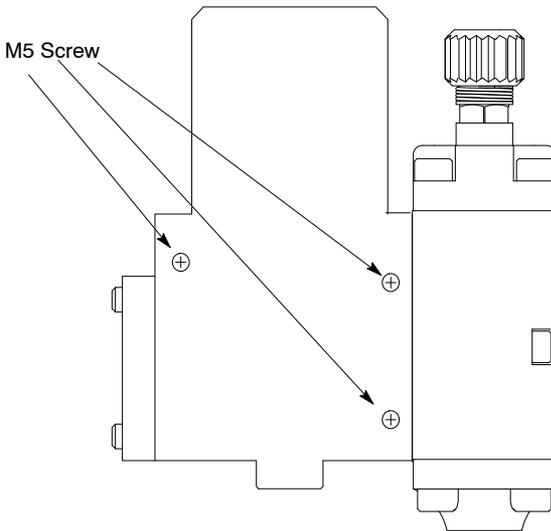

Figure 27: AG-900+/AG900+S Applicator
2. See Figure 27. Unplug the heater cordset from the hose or extension cable, remove the three socket head screws, pull the applicator assembly away and separate the heater assembly from the applicator.